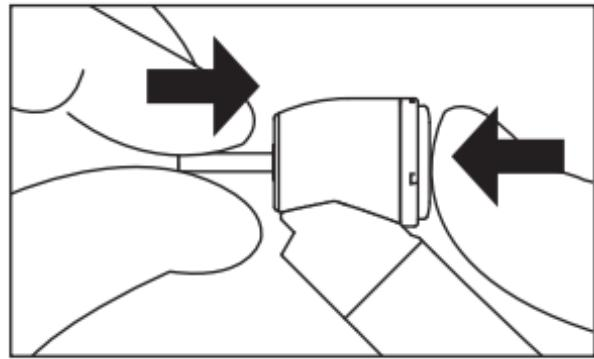

Fig. 5
1) Insert the bur until it is correctly seated in place. (Fig. 5)